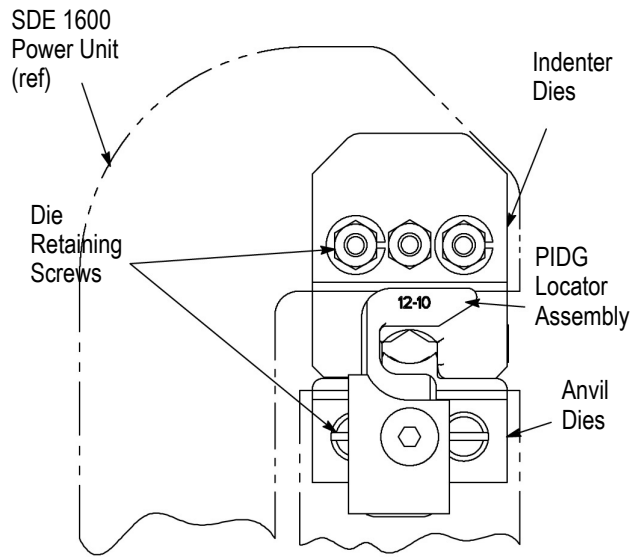

Figure 3
3. DIE INSTALLATION (Figure 3)